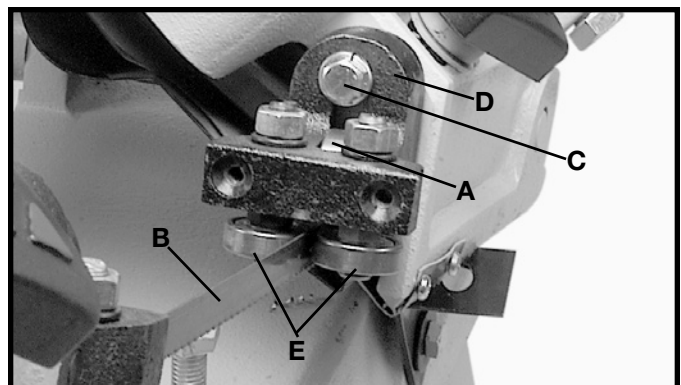

Fig. 19
3. If an adjustment is necessary the blade guide bearings and blade support bearings (E) Fig. 19 (two of which are shown) should be clear of the blade.
1. The blade support bearing (A) Fig. 19, should be adjusted so it just touches the back of the saw blade after the blade is tracking properly. To adjust, loosen screw (C) and move the bracket (D) up or down until the support bearing (A) just touches the back of the blade (B). Then tighten screw (C).